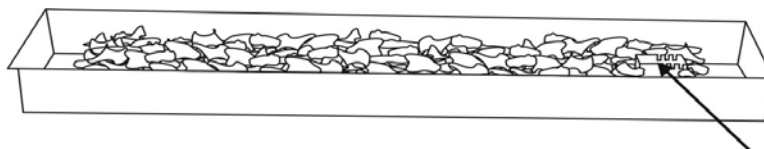

Figure 6
4. Remove the cardboard cover from the ignition well as shown in Figure 6. Remove any lava rocks or fire ice on top of ignition well.